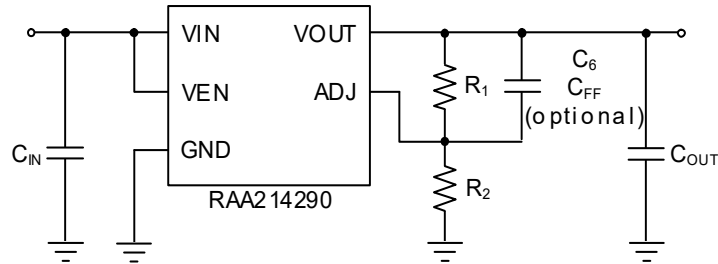
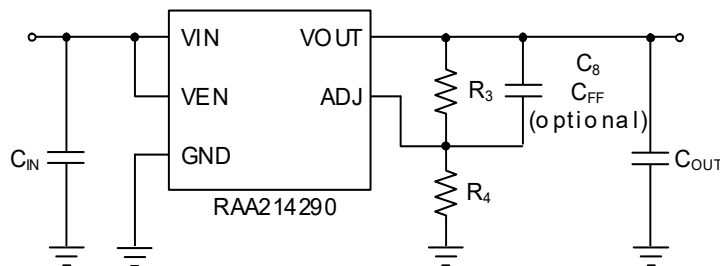

Figure 3. RAA214290 SOIC Simplified Application Schematic
Figure 4. RAA214290 DFN Simplified Application Schematic
The RAA214290 output voltage (V_{OUT}) can be programmed down to 1.224V and up to 18V using the feedback (FB) resistors, R_1 and R_2 for the SOIC package (Figure 3) or R_3 and R_4 for the DFN package (Figure 4).